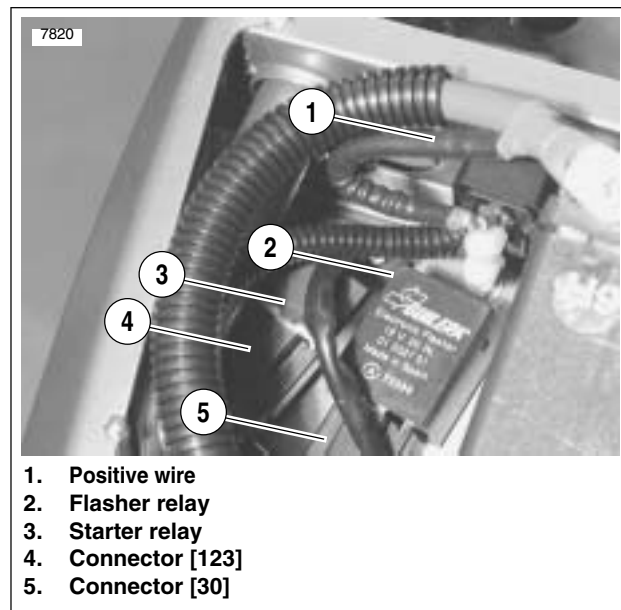

Figure 7-95. Flasher Relay Connector [30]
26. See Figure 7-95. Unplug flasher relay connector [30] and starter relay connector [123] located in frame tray on right hand side.
28. See Figure 7-95. Disconnect positive (+) wire from battery on circuit breaker (upper stud).
2. See Figure 7-95. Connect flasher relay connector [30] to flasher relay and starter relay connector [123] to starter relay.